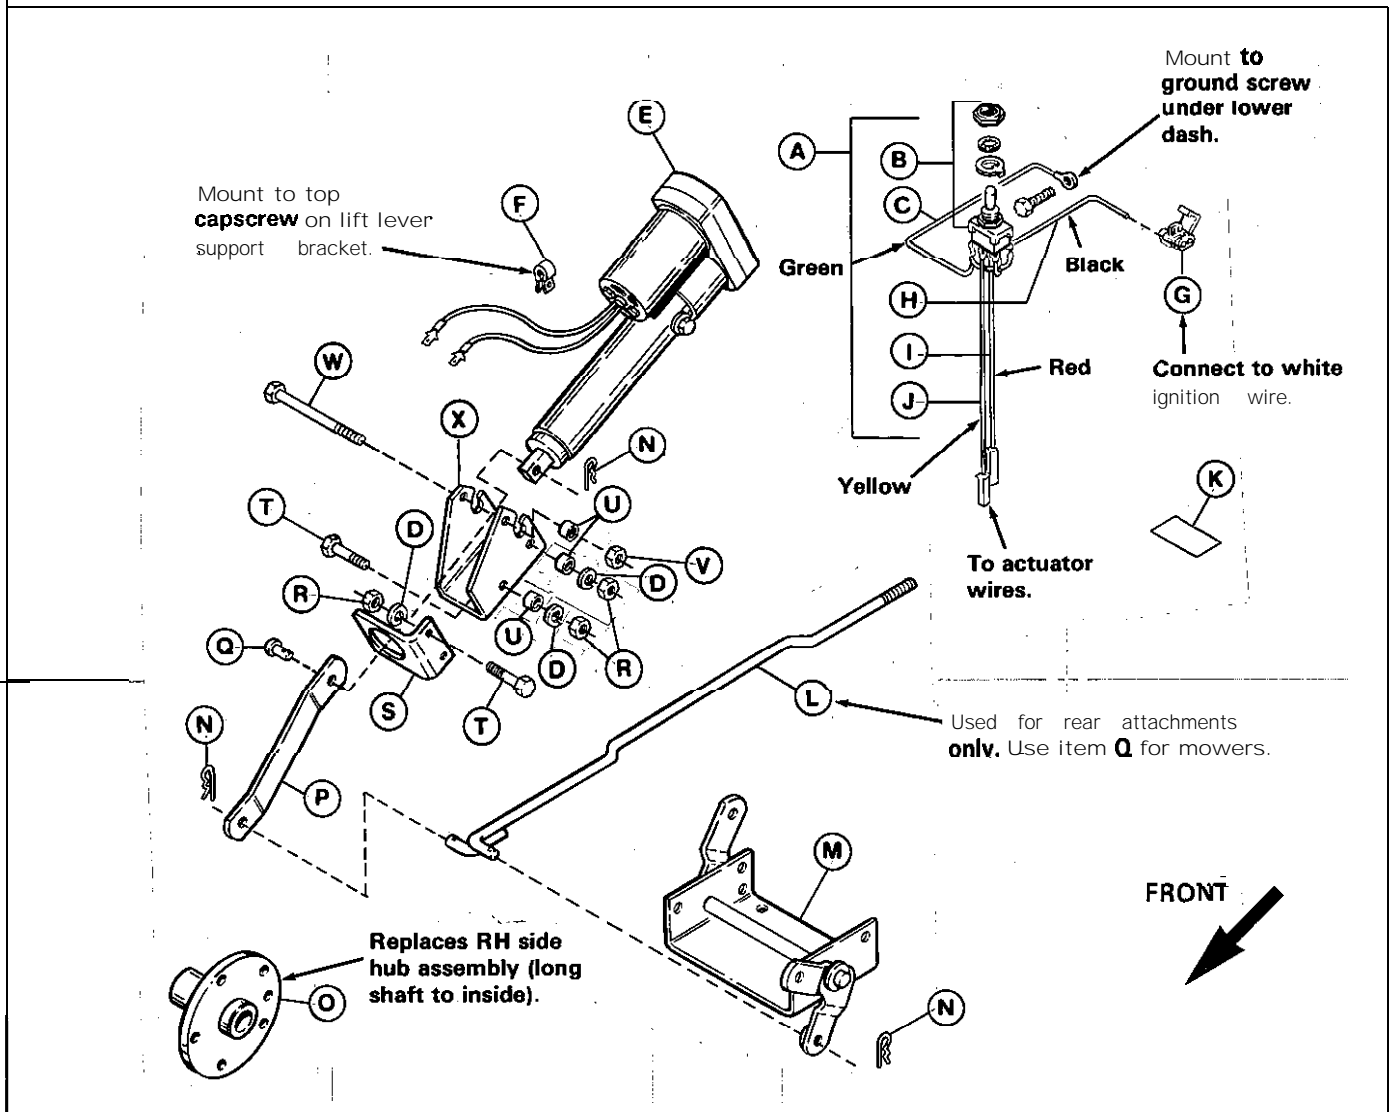
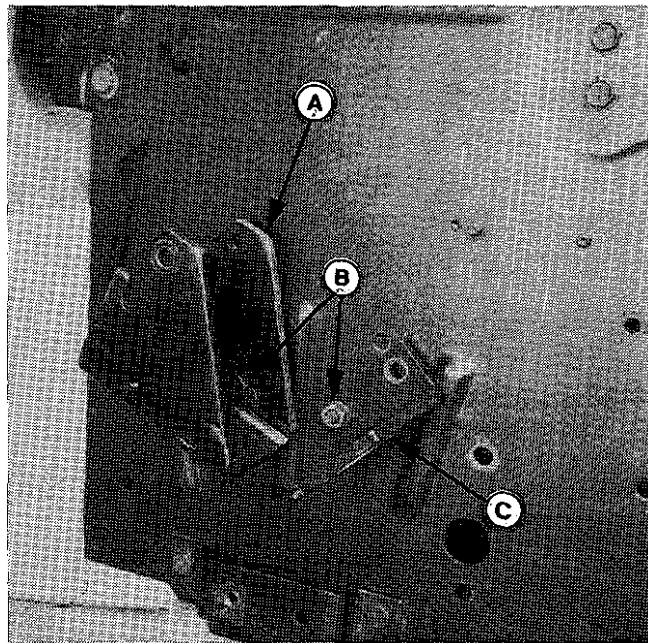
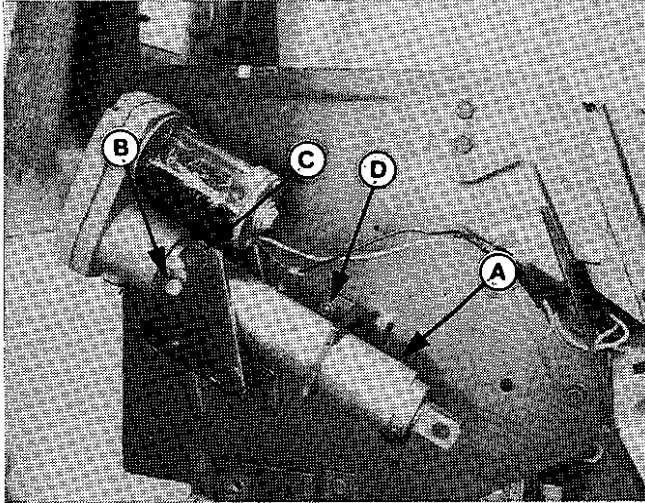
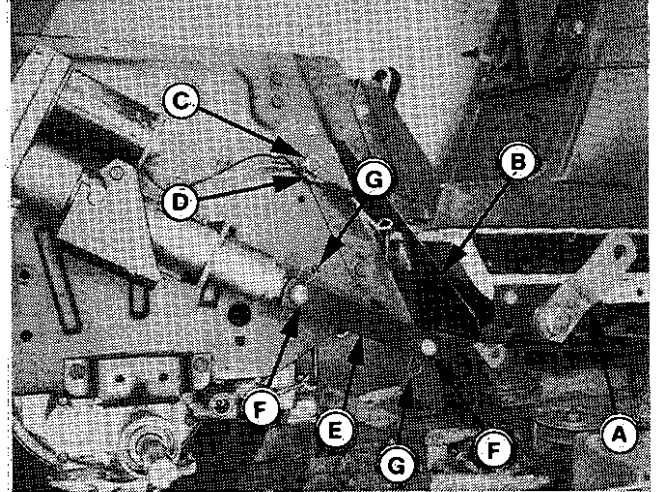

Figure 1. Kit Parts
Figure 2. Bracket Installation
Figure 3. Cylinder **Installation**
Figure 5. Electric Lift Lever
- 6 Remove five capscrews from wheel assembly and secure kit hub assembly (0, figure 1) to wheel. Do not install on tractor.
- 8 Install rear actuator bracket (X, figure 1 or A, figure 2) with two capscrews (T, figure 1), spacers (U), lockwashers (D), and nuts (R). Install bolts from outside in, putting spacers between bracket and wrapper. Lockwashers and nuts are installed on inside of wrapper. Do not install the 4-1/2" capscrew (W) at this time.
9. Install front bracket (C, figure 2) with bottom capscrew (B) only. Install capscrew from inside out. Secure with lockwasher (D, figure 1) and nut (R).
10. Insert cylinder (A, figure 3) through brackets as shown in figure 3. Make sure lugs (B) fit securely into rear bracket slots.
11. Install top 4-1/2" capscrew (C) on rear bracket (with spacer between bracket and wrapper) and secure with locknut (V, figure 1). Install top 1" capscrew (D, figure 3, from inside wrapper) in front bracket and secure with lockwasher and nut.
- c. Remove lift lever bracket support (B, figure 5). Retain hardware for **reinstallation**.
13. Install new electric lift. lever bracket (A) reusing existing hardware (mounted in same location).
14. Reinstall bracket support (B), reusing existing hardware. In top **cap screw** (C), install clip (F, figure 1 or D, **figure 5**). Clip and wiring are shown installed in figure 5.
15. Mount actuator link (E) between cylinder and new lift lever as shown in figure 5. Install **clevis pins** (F) from outside and spring clips (G) on inside. When alignment is correct, tighten all mounting hardware.
For rear-mounted attachments, lift rod (L, figure 1) must be installed. Refer to last section of this instruction sheet.
22. Reach thru the hole in top of lower dash and install the switch (A, figure 1). Position the switch so that slot in threads is up. From outside the dash, place the washers (B) on switch, aligning tab washer in slot in threads. Install and tighten the nut securely.
23. Connect black switch wire to white wire from ignition switch with connector (G, figure 1) provided in kit.
24. Lift up lower dash and locate taptite screw securing **two** black ground wires. Route green wire (C, figure 1) from switch and ground under this screw.
25. Route the yellow and red wires from switch down behind the steering shaft. Wires should follow wiring harness and be routed cut lower dash cutout, underneath shift quadrant panel and thru square, hole for seat latch. Refer to figure 5. Wires should then **be** attached to wire clip (D, figure 5).